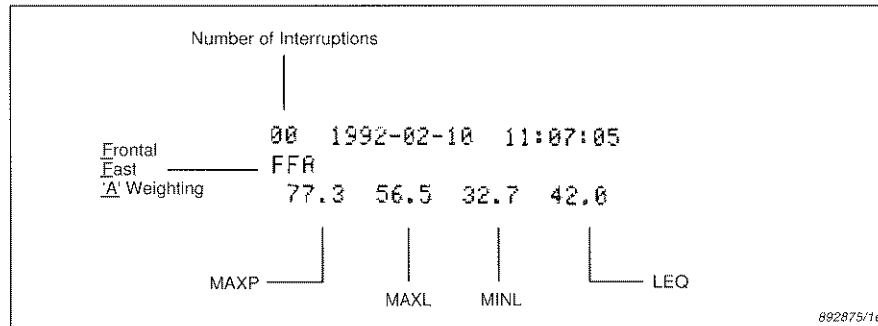

Fig. 3.5. Print-out in Format Number 4
- 4 : Record Number, Date, Time, Set-up, and the MAXP, MAXL, MINL and  $L_{eq}$  results (see Fig. 3.5).